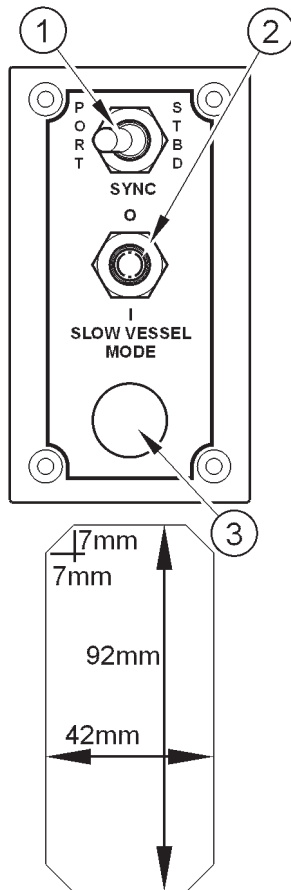

Figure 8
The function of the synchronization switch, figure 8, designates one of the throttles in a dual engine installation as the master throttle. When the switch (1) is activated each engine will respond to this master throttle.